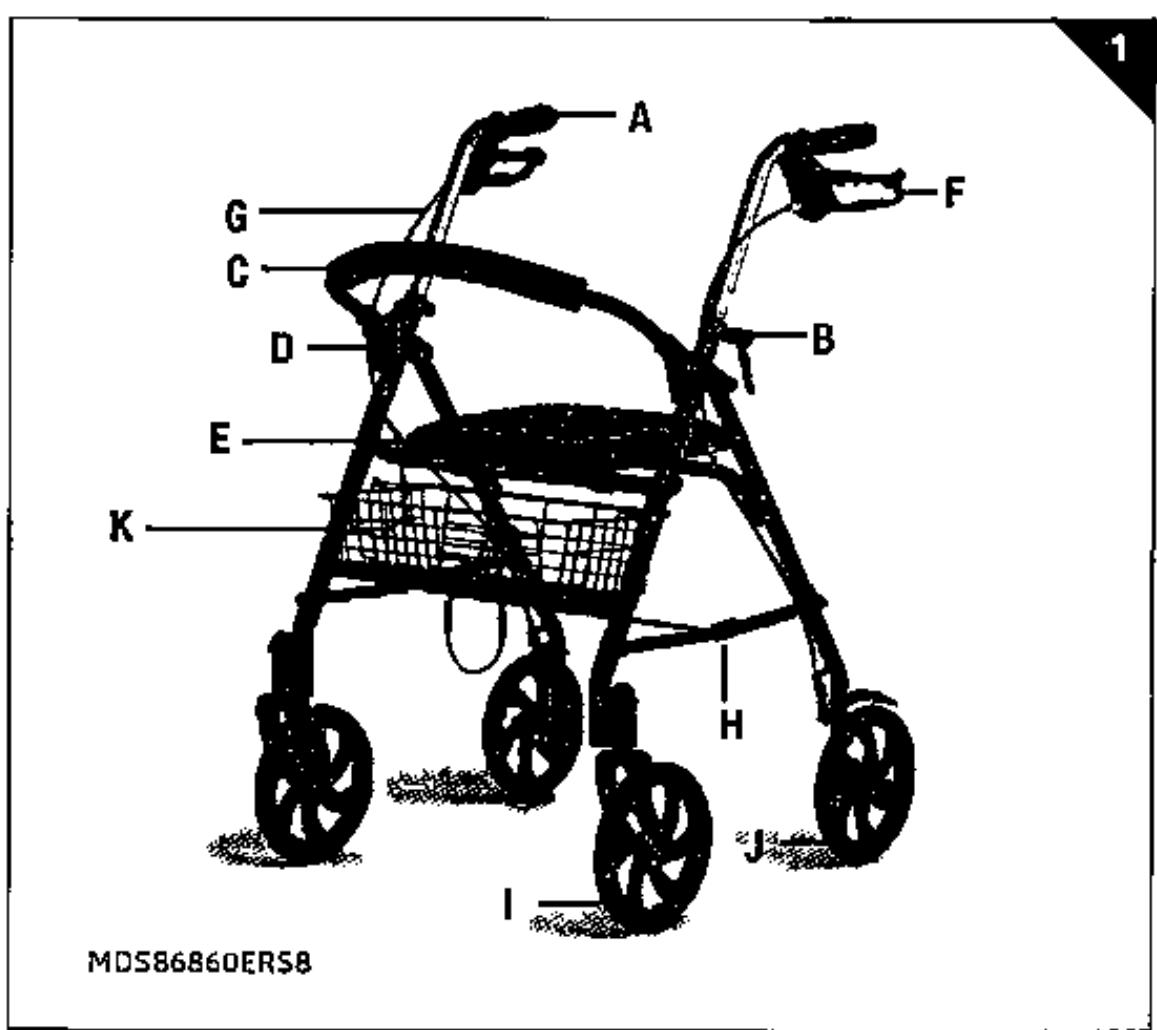

Figure 1: Assembled Rollator
1. Carefully remove the rollator components from the shipping carton. Refer to diagram (**Figure 1**) as needed.
4. Unfold the rollator by pushing down on the Folding Bracket (H) until the Frame is in full extension.
5. Insert the backrest (C) into the attachment pieces so that the curved portion faces the front of the unit. The backrest slides easily into plastic attachment piece.
6. Insert the handlebars so that the handgrips (A) are aligned with the rear wheels. The brake cables should be on the outside of the handlebars and frame. Ensure excess brake cable loops towards the front of the rollator.
7. Secure the handlebars by inserting the screw from the inside of the frame through the holes. Align the bolt head so it fits flush against the frame. Apply pressure to the bolt and add the washer on the opposite side of the bolt. Then apply the Height adjustment lever (B) and slightly tighten. Adjust the height of the handgrips (A) for proper fit.